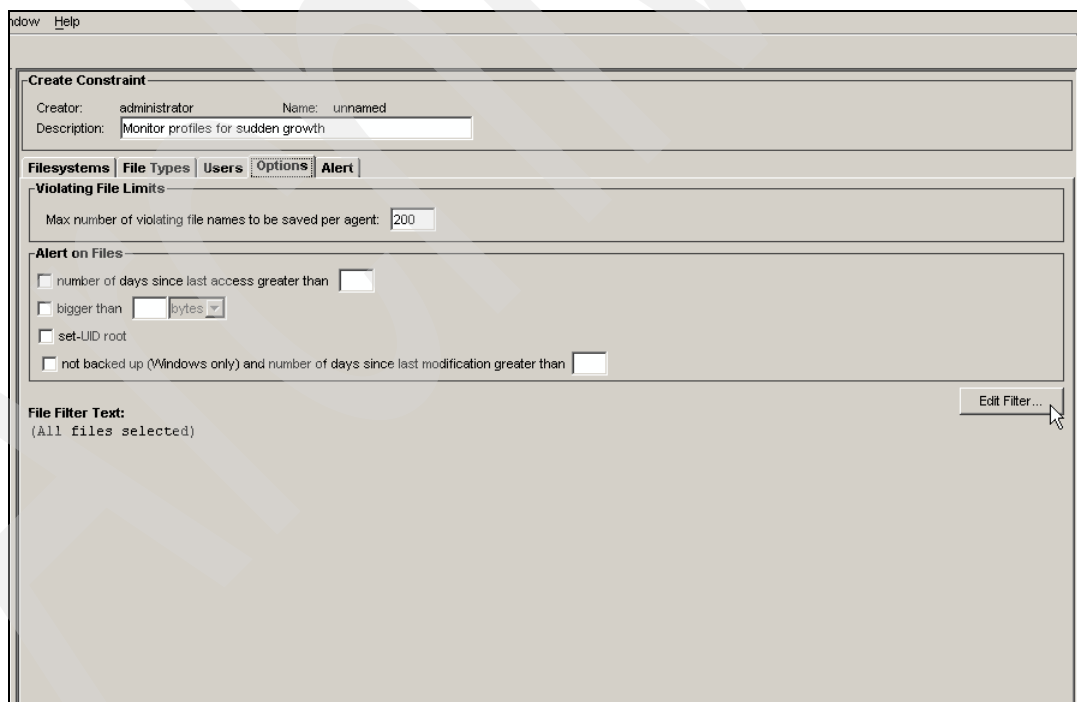

Figure 2-40 Edit Filter
3. Click the **Options** tab and click **Edit Filter** as in Figure 2-40.